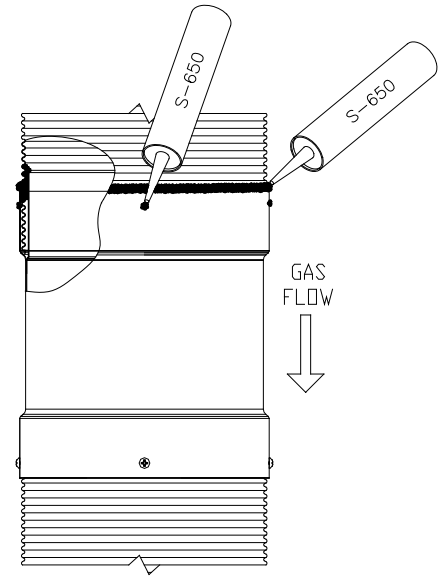

Figure 23 -DuraSeal Flex S-650 caulking
3.3. Push the adapter on the liner all the way in, until you can't see the mark made on the flexible liner earlier. Add a bead of the S-650 red caulking all around the outer junction of the adapter and the flexible liner to make sure everything is well sealed. Also add over the screw holes (Figure 23).